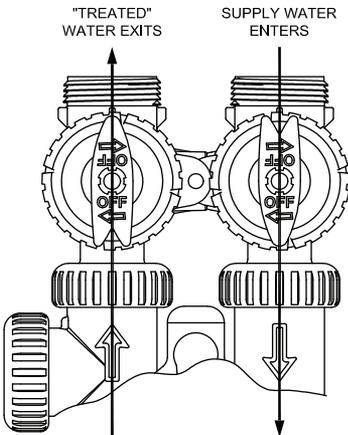

Figure 2
Please consult your EasyWater Consultant or Authorized Dealer if the drain line size is in question. Drain Nut (Fig 1) & Polytube Insert (Fig 2) are only used if plumbing drain line with non-collapsible 5/8" polytube. These items are not used when hard plumbing in PVC, PEX or Copper.
- 2) Bypass Position: The inlet and outlet handles point to the center of the bypass, the Control Valve is isolated from the water pressure contained in the plumbing system. Untreated water is supplied to the plumbing system. (See 'Bypass Operation' Fig 2)
(See 'Bypass Operation' pg 12, Fig 2)
- 1) Place the system into bypass. (See 'Bypass Operation' pg 12, Fig 2)